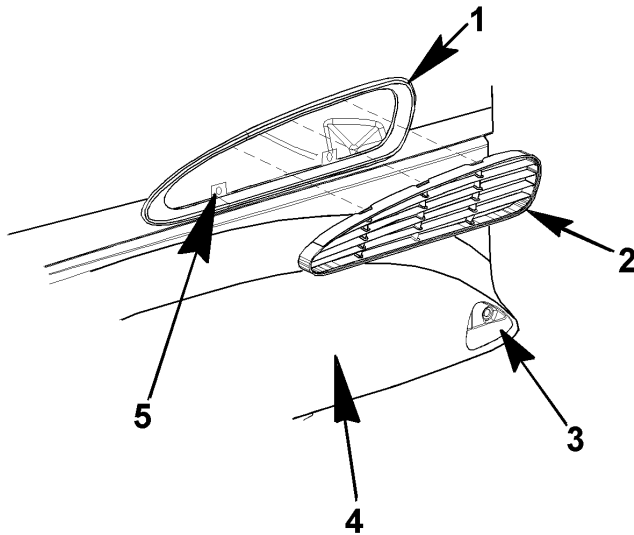

Figure 24 Air Intake Grille (Driver side)
The air intake assembly is located on the drivers side of the front hood/fender assembly. The air intake grille assembly is a removable item (Item 2, Figure 24).
1. Locate the grille assembly and place into the air inlet frame (Item 1, Figure 24).